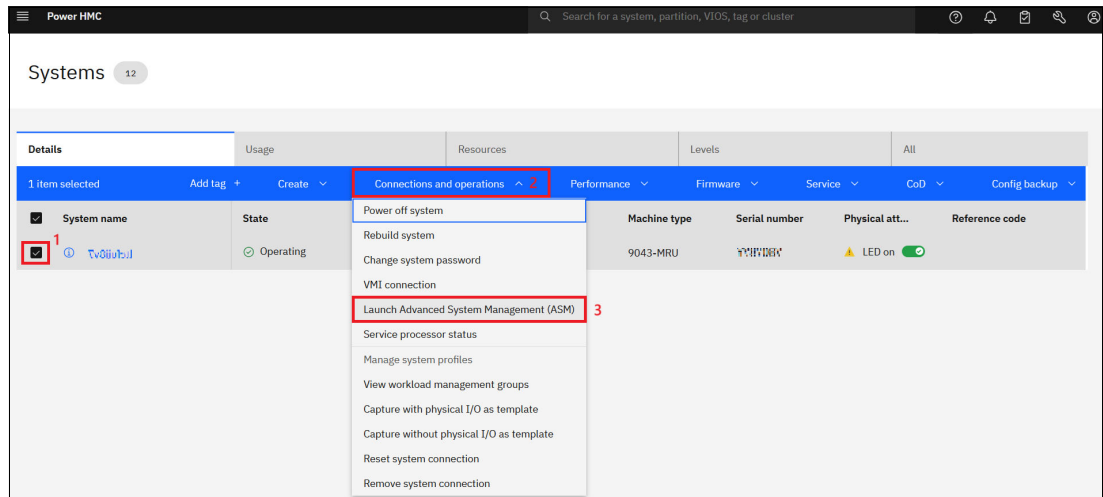

Figure 8-1 Launch Advanced System Management (ASMI).
1. To open the ASMI GUI from the HMC, select the server, and then select **Operations** → **Launch Advanced System Management**, as shown on Figure 8-1 on page 153.